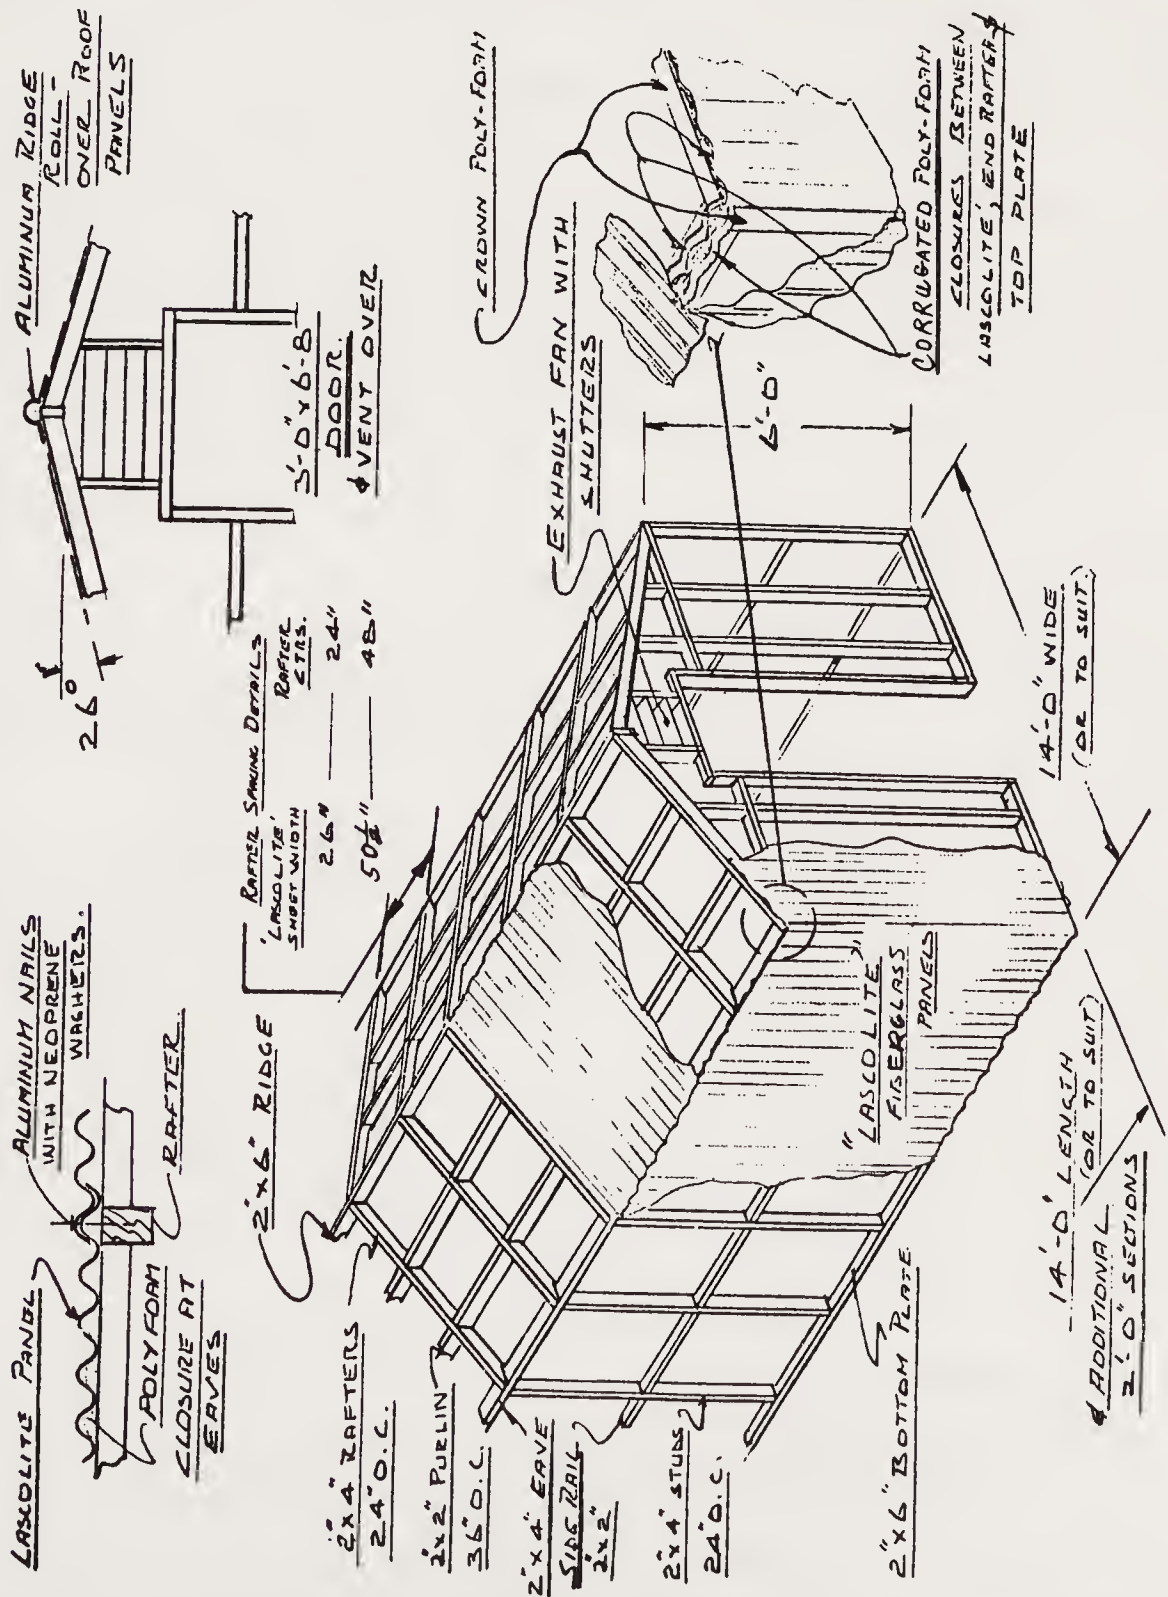

Fig. 2-1. The Extra Purlin model details (courtesy of Greenhouse Specialties Company).
**The Extra Purlin Model.** This “more Purlin model” (Fig. 2-1) is a 14' x 14' model which has a little different effect in its construction in that it has more purlins—horizontal timbers—in its design. It is, therefore, provided much sturdiness due to the additional lumber and would be ideal for the location which is susceptible to high winds and yet where no foundation is necessary.
Two 8 ft. 2 x 4's cut to the size shown on the plan. Structural details for this model are shown in Fig. 2-1.